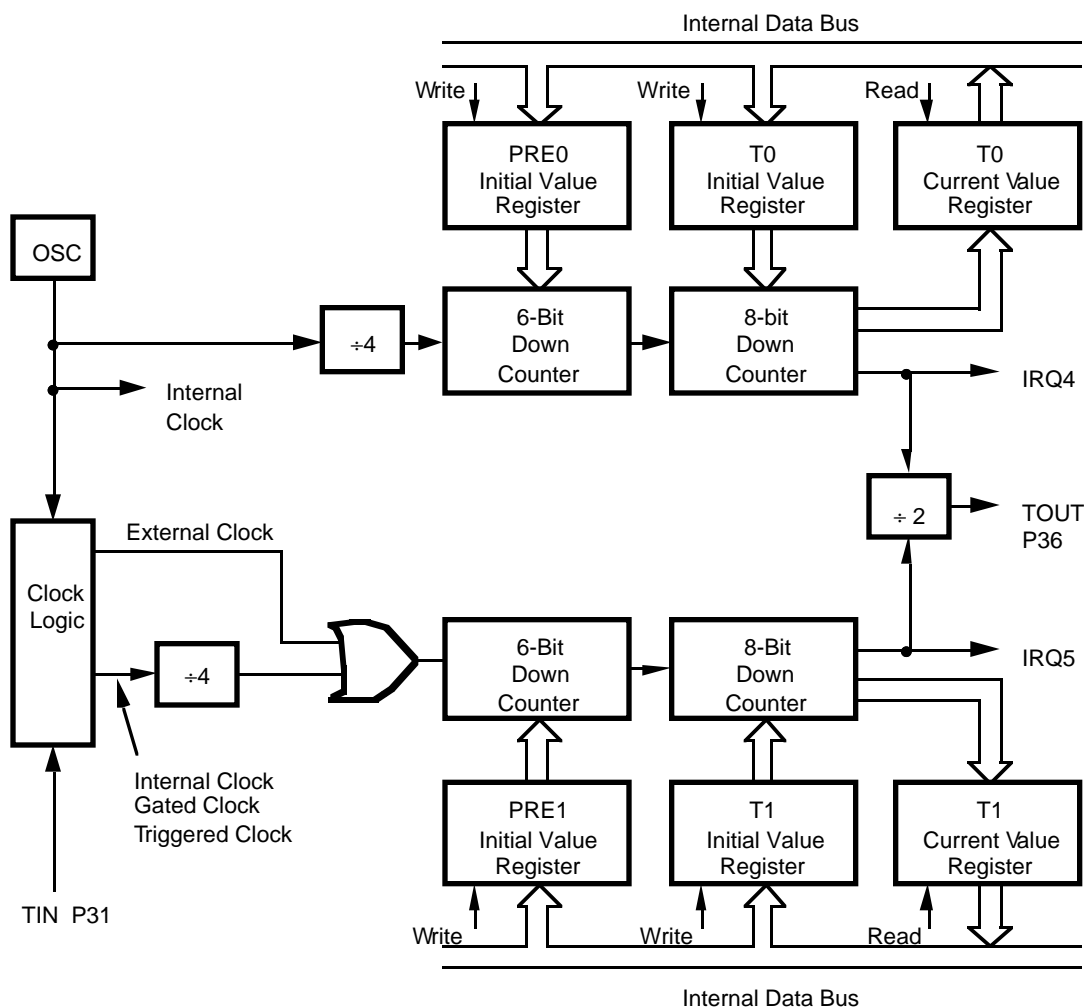

Figure 15. Counter/Timers Block Diagram
**Counter/Timers.** There are two 8-bit programmable counter/timers (T0-T1), each driven by its own 6-bit programmable prescaler. The T1 prescaler is driven by internal or external clock sources; however, the T0 prescaler is driven by the internal clock only (Figure 15).